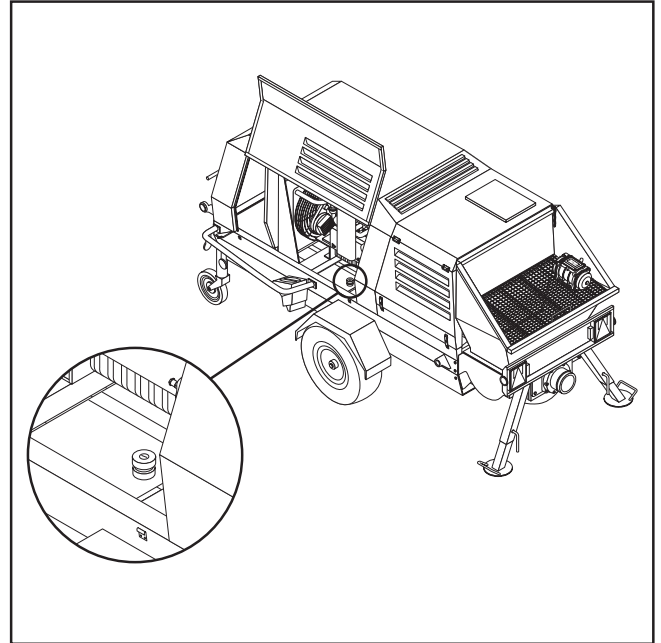

FIG. 33
- Top up the diesel fuel tank (FIG. 33) at the end of every work session to avoid the forming of condensate inside the tank when the machine cools down.